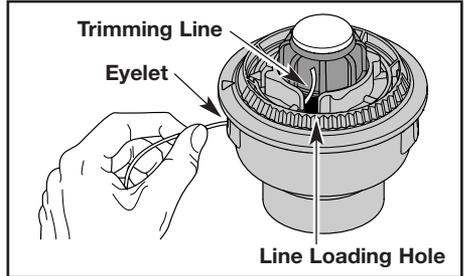

Fig. 11
**NOTE:** Before installing new trimming line onto the existing inner reel, remove any old line from the SpeedSpool by pulling the line out of the line loading or locking holes (Figs. 11 and 12).
2. Insert **10 feet (2.5 m) of .080 in (2.03 mm) trimming line** into one of the two eyelets and push it up through the line loading hole in the inner reel (Fig. 11). Do not bend the line when inserting it into the eyelet.